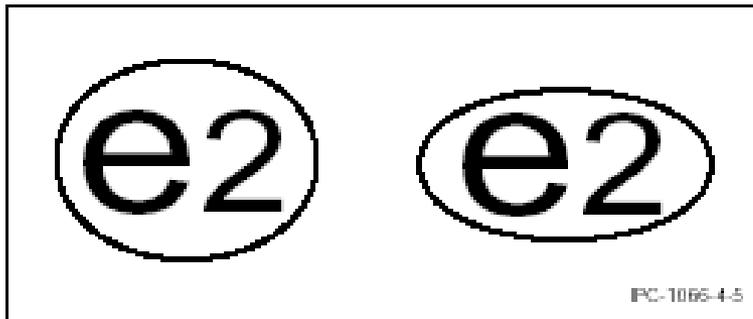

Figure 4-5 Example of Mark Showing Category 2 and Option of Circle or Ellipse
**5.1 Solder Finish Categories** The following categories are meant to describe the Pb-free 2nd level interconnect (see Figure 4-5) terminal finish/material of components and/or the solder paste/solder used in assembly.